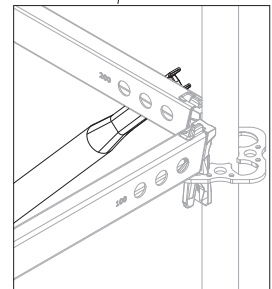

Fig. A2.05a
3. Insert Ledger Brace UBL (**42**) into the top Horizontal Ledger UH-2 with the mounting finger. (Fig. A2.05a)